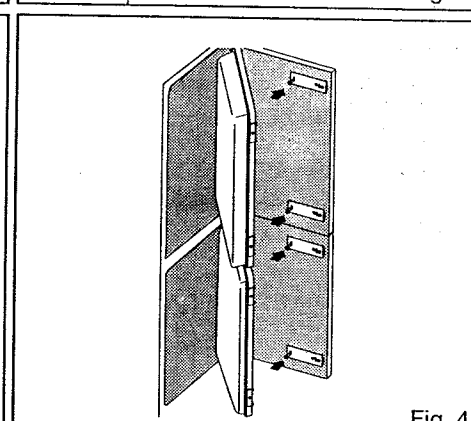

Fig. 4
- Fix the slides and be careful not to move them while fixing (Fig. 4).